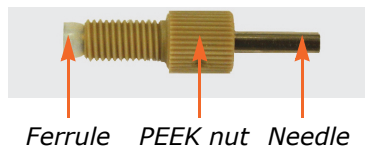

Figure 5-11. Assemble the Needle, Ferrule, and Nut
3. Assemble the new needle, ferrule, and peek nut (P/N 411915 for Ø1.65 needle and P/N 412616 for Ø3.2 needle). Ensure that the needle is aligned with the end of the ferrule; see Figure 5-11.